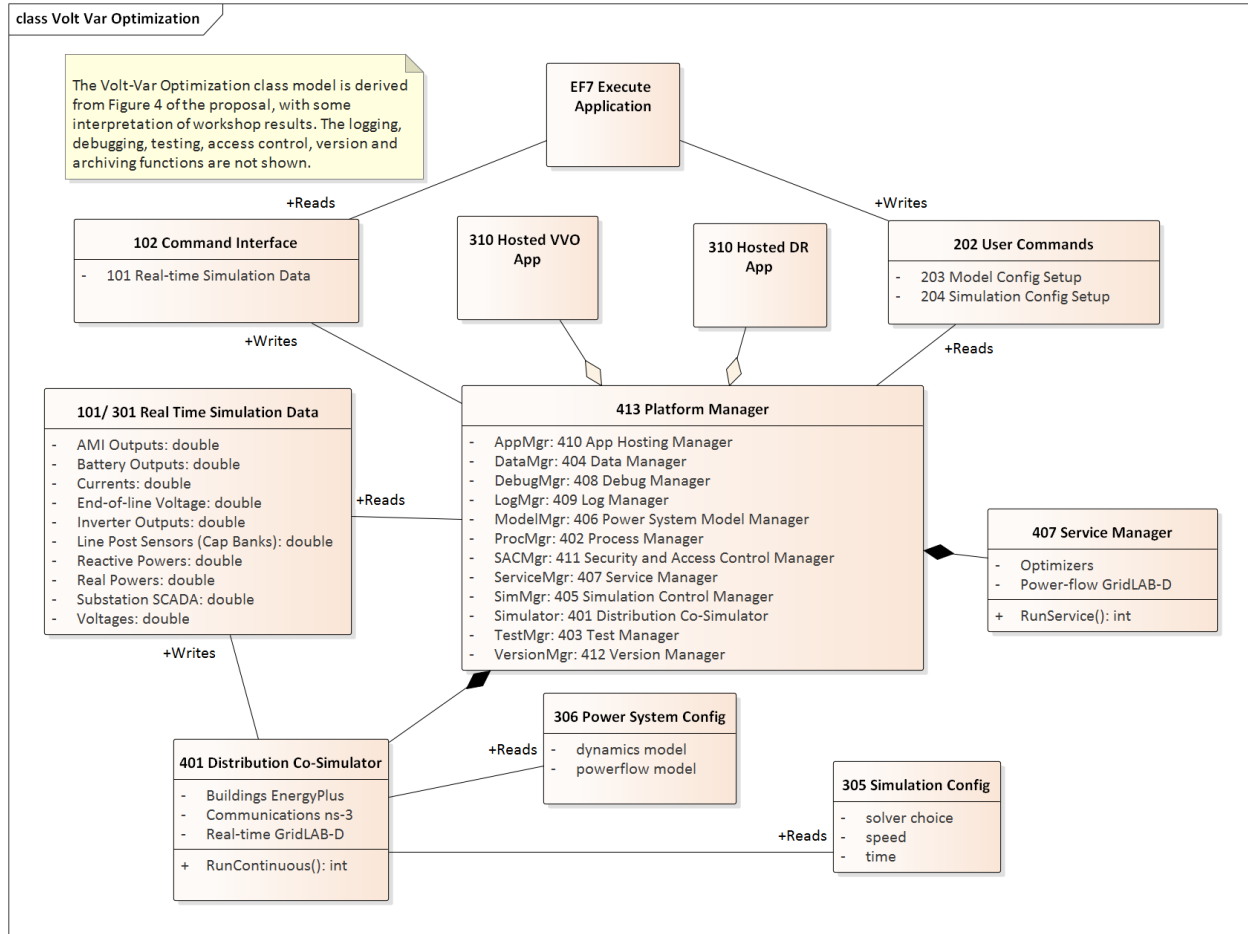
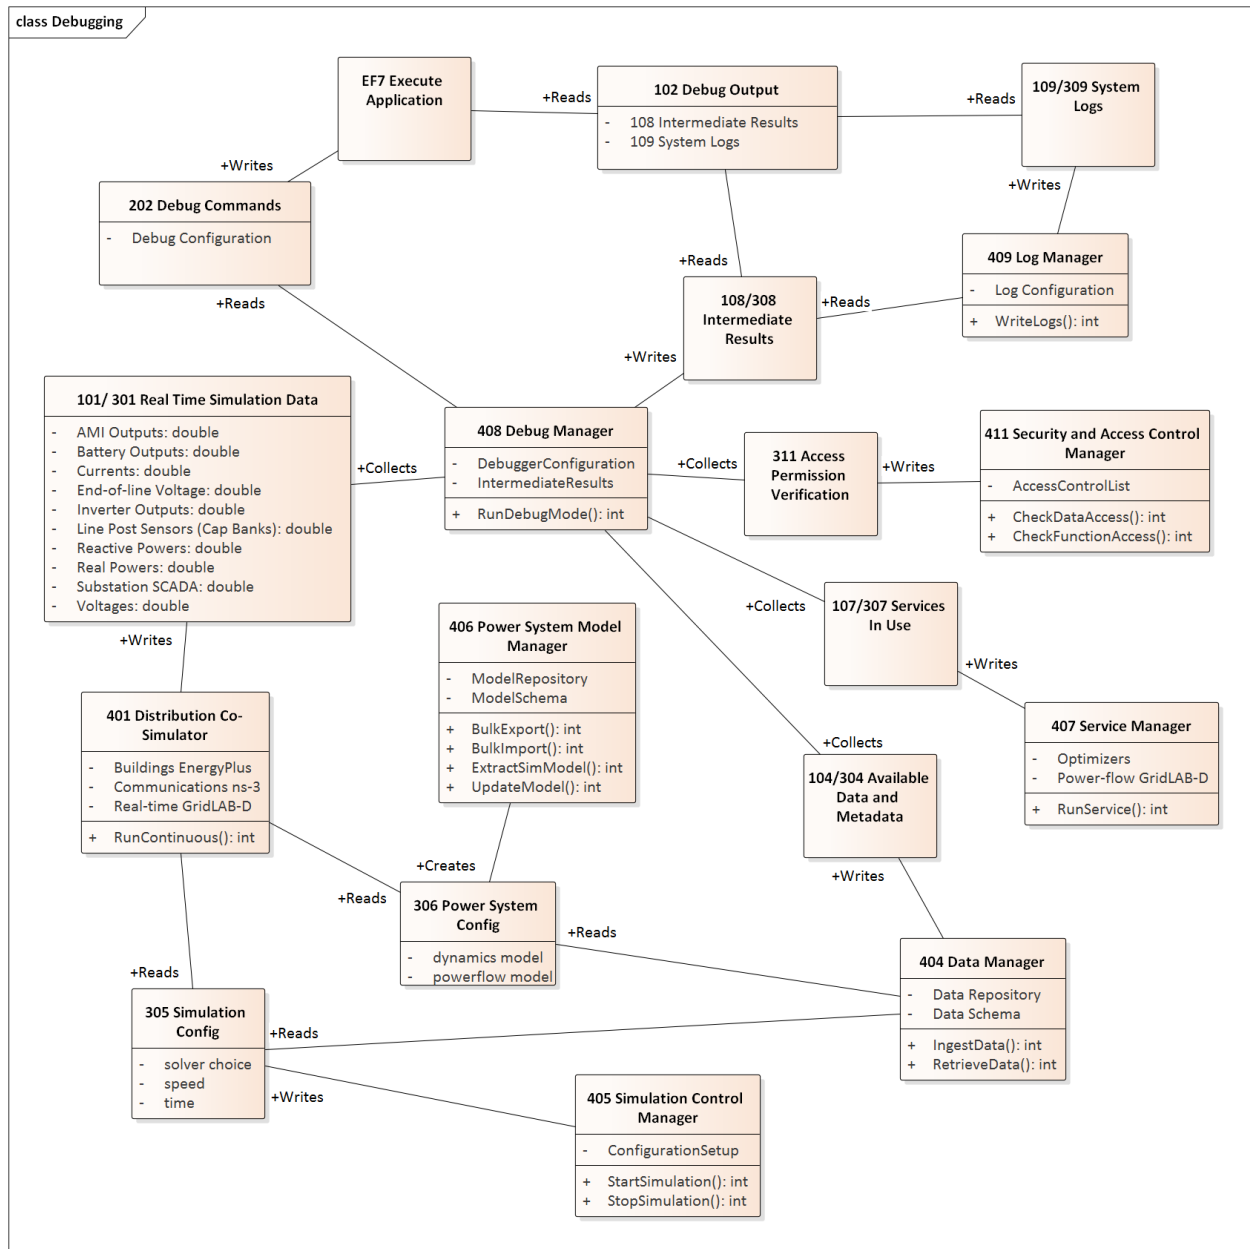

Figure 2: Executing an application
Figure 5: Debugging an application
1. Different on and off delay parameters for RegulatingControl (Figure 5)
3. Current ratings for PerLengthImpedance (Figure 2). At present, some users rely on associated WireInfo, ignoring all attributes except currentRating.
4. Transducers for RegulatingControl (Figure 5)
Figure 2 illustrates the case of a user executing an application, in the role of EF7 from the functional specification. We initially focused on volt-var optimization (VVO), and then added a more complicated demand response (DR) application that fits the same basic pattern. As a prerequisite, some entity has provided both applications to GridAPPS-D for registration and hosting, in a process detailed later. For now, we assume the application(s) have been installed and will focus first on running VVO.
When we considered adding the second and more complicated application, 310 DR, the structure of Figure 2 didn’t change very much. The open-headed diamond symbols indicate that GridAPPS-D can host several applications, which is UML aggregation. These applications may interact via the GridAPPS-D command interface, if the applications and their command sets have been designed for it. For example, the DR application may use VVO to check and mitigate voltage limits.
usage in Figure 2, this example shows additional control and output for testing. The test commands include 203 and 204, as in Figure 2, but they also include:
Figure 5 shows some of the internal 413 Platform Manager detail when a user, EF7, runs an application in debugging mode. Compared to Figure 2, there is much more internal output. The 212 Debug Configuration will include such things as breakpoints, watch variables, and logging requests. When run in debug mode, the 408 Debug Manager will collect the internal inputs and intermediate results from a variety of GridAPPS-D modules, including the simulator, services in use, model data, and access violations. The 404 Data Manager mediates most of this data collection (and with a change to the specification it could also mediate 101/301). The 408 Debug Manager combines this into 108
Intermediate Results, with 109 System Logs, for output to the user via the command interface. Depending on the implementation of GridAPPS-D, interactive debugging may also be supported, but is not shown in Figure 5.